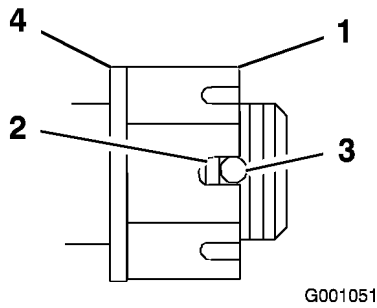

Figure 44
4. Torque the slotted nut to 125 ft-lb (170 N·m) (Figure 44).
5. Check the distance from bottom of slot in nut to inside edge of hole. Two threads or less should be showing (Figure 44).
7. Torque the slotted nut to 125 ft-lb. (170 N·m) (Figure 44).
8. Tighten the nut until the next set of slots line up with the hole in the shaft (Figure 44).